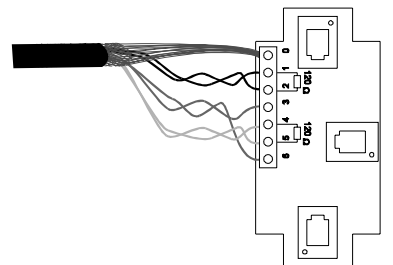

Figure 9: T-connector in the ISA72 network with end-line resistors
Connect the ISA72 to a T connector for telephone cables with a telephone-like cable. From here start again with telephone-like cable towards the instrument to be connected and with shielded 3-pair twisted cable towards the following T connector. In the last T connector insert the end-line resistors of the ISA72 network (see Fig.9). Maximum length of the ISA72 network = **300 m**. If the length of the ISA72 network is less than 100 m, it is possible to utilise a telephone-like cable in order to connect the T connectors reciprocally, although CAREL always suggests the use of a twisted and shielded cable, and to exactly fit the cable to the terminal as shown in Fig. 9 and in Tabella .
5. in the network of the ISA72, connected with the most distant T connector from the ISA72, insert the end line resistors - $120\Omega \frac{1}{4} W, -$, terminal blocks 1-2 and 4-5; refer to FIG: 9.